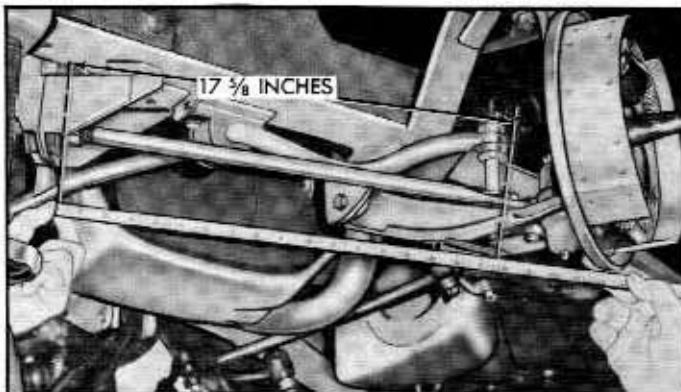

Fig. 3-3—Checking the Strut for Correct Length—Typical (61CM-401)
4. Make certain the stabilizing strut on the lower suspension arm is adjusted to its correct length of $17\frac{5}{8}$ inches. Refer to figure 3-3.
The position of the lower suspension arm is controlled by the stabilizing strut. The correct installation of this strut is important and its installed length should be checked and corrected, if necessary, before checking wheel alignment. See figure 3-3.
1. Remove strut retaining nut, washer and insulator at rear of frame-body member. Refer to figure 3-3.
6. Using the locknut, adjust the length of the strut to $17\frac{5}{8}$ inches as shown in figure 3-3.